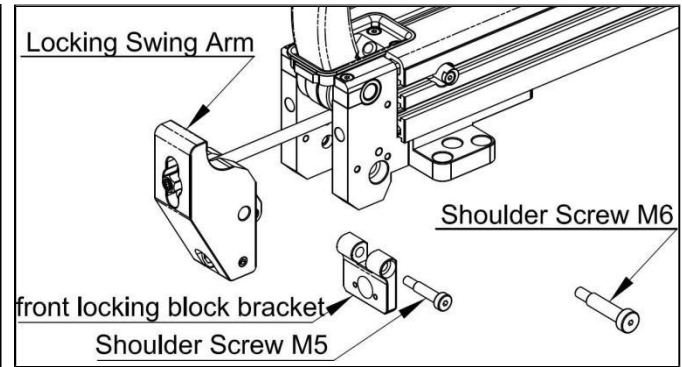

Fig. 14-6
5. As shown in Fig. 14-6, remove the two shoulder screws and take off the front locking block bracket, then pull out the locking swing arm.